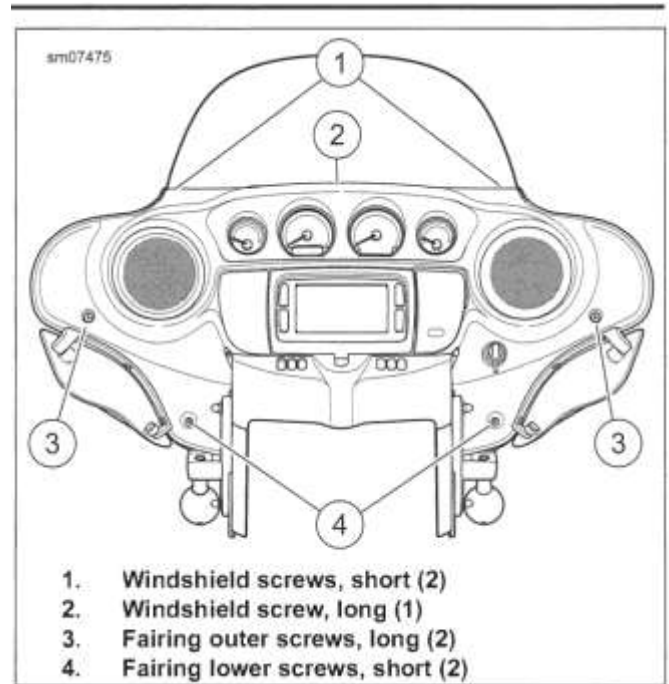

Figure 3-95. Outer Fairing Screws
- See Figure 3-95. Remove three screws (1,2) securing the windshield.
- Loosen two screws (3).
- See Figure 3-95. Install three screws (1,2). Tighten.